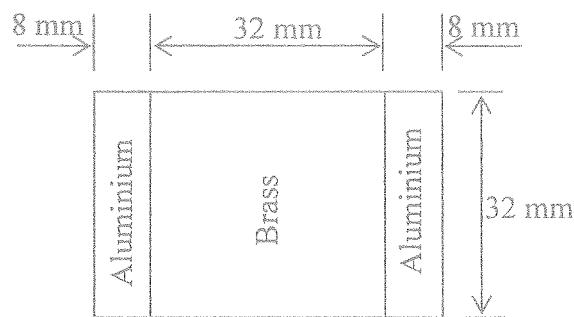

Fig.Q1
b) A composite beam having the cross section as shown in Fig. Q1 is formed by securely bonding two rectangular aluminium sections to a square brass section. The modulus of elasticity and the allowable bending stresses of the two materials are as follows.